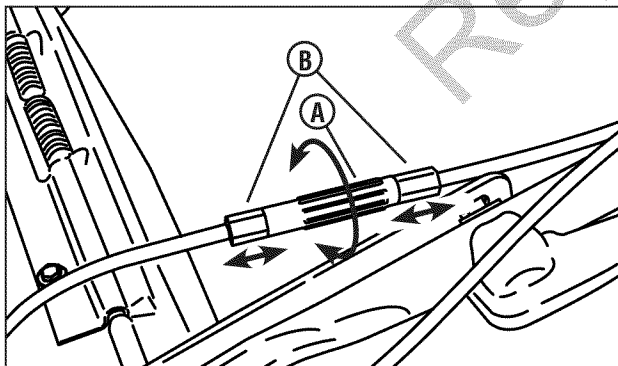

Figure 17: Adjusting the drive cable
- If the transmission does not engage, rotate the turnbuckle (**A, Figure 17**) one-half turn to move the ferrules (**B**) out from the turnbuckle. Check and repeat as needed.